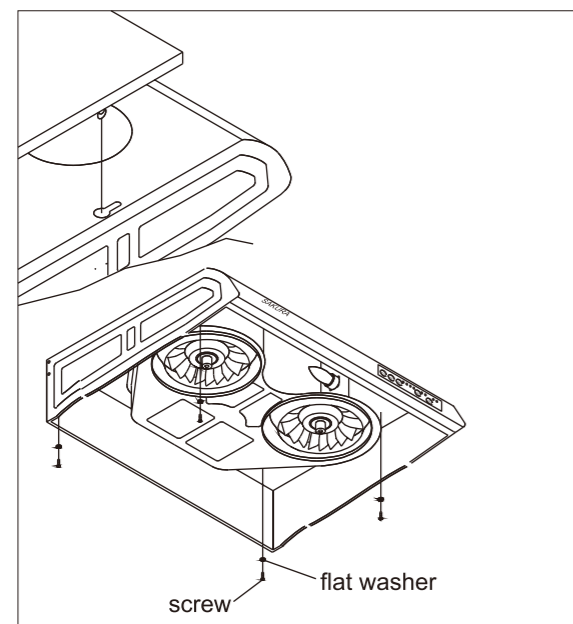

Fig. 13 Fit the keyhole slots over the screws
- Fit the four wider ends of the keyholes into the four screws on the cabinet, then adjust the hood till the screws are pushed into the narrow part of keyhole slots. Loose every screws and increase 3/16" washers to screw on together. (Don't screw on too tightly.)(Fig. 13)